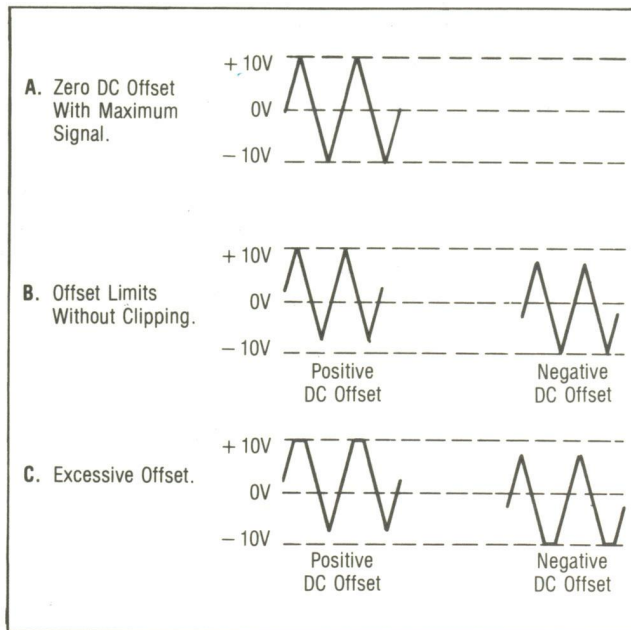

Fig. 4. Use of DC OFFSET control.
1. The DC OFFSET control can provide up to ± 10 volts open-circuited, or ± 5 volts into 50Ω . Remember that the combined signal swing plus dc offset is also limited to ± 10 volts open-circuited, or ± 5 volts into 50Ω . Clipping occurs slightly above these levels. Fig. 4 illustrates the various operating conditions encountered when using dc offset. If the desired output is large or if a large dc offset is used, an oscilloscope should be used to make sure that the desired combination is obtained without clipping. The probability of clipping is reduced by keeping the AMPLITUDE control in the lower half of its adjustment range when possible.